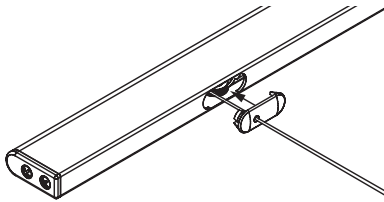

Figure 12
- ⑳ Tighten the smaller screw to lock the position of the roller. Re-test the fabric tracking and re-adjust if needed.
- ㉒ Click the hem-bar Pulley Caps into place (see Fig. 12).